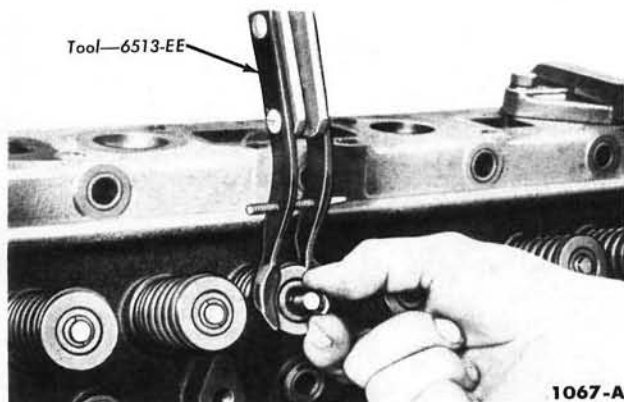

FIG. 17—Valve Stem Lock Removal or Installation
2. Compress the valve spring (Fig. 17), then remove the valve retainer locks and release the spring. Remove the sleeve, spring retainer, spring, stem seal, and valve. Discard all valve stem seals. Identify all valve parts.
2. Install the valve spring, then install the valve spring retainer, and sleeve. Compress the spring, and install the retainer locks (Fig. 17).